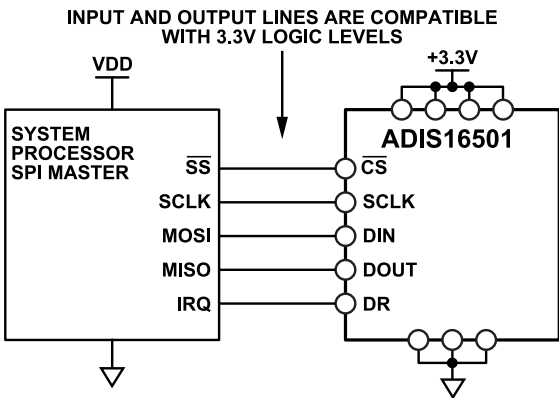

Figure 34. Electrical Connection Diagram
The SPI provides access to the user registers (see Table 10). Figure 34 shows the most common connections between the ADIS16501 and an SPI main device, which is often an embedded processor that has an SPI-compatible interface. In this example, the SPI main uses an interrupt service routine to collect data every time the data ready (DR) signal pulses.